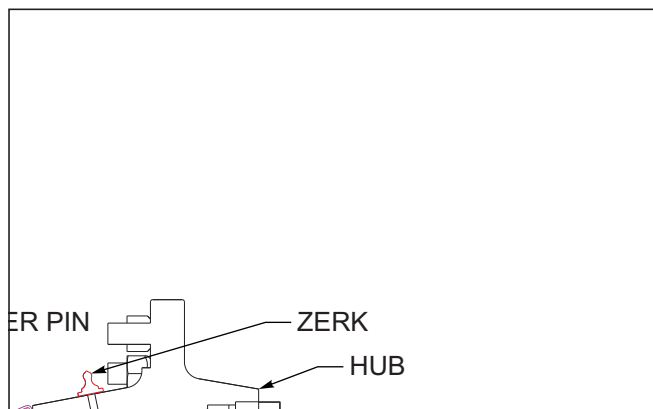

Figure 4-17: Triple Lip-Seal
The triple-lip seals should point away from the hub to keep contaminants out and allow grease to pass *See Figure 4-17.*
11. Install a new cotter pin and replace the hub cap. *See Figure 4-17.*